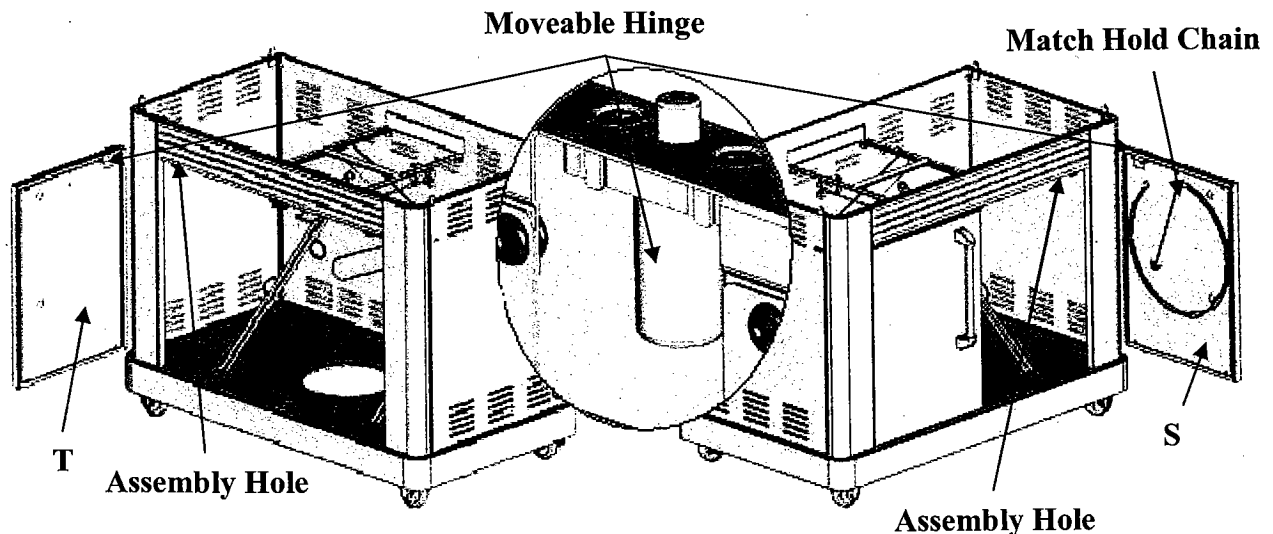

Fig. 13
Before installing the doors, familiarize yourself with the door structure. The hinge is moveable. Insert the lower hinge into the hole in the base. Push the spring through the square hole above the door until the hinge is aligned with the hole under the beam (V), and then release. (See Fig. 13)